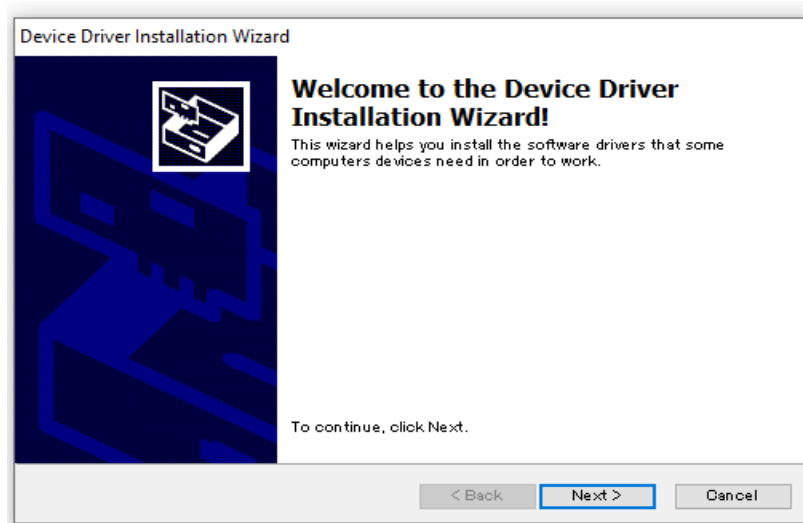

Figure 2-5 Installation start screen
7-3) Figure 2-5 will be displayed. Click Next (N).